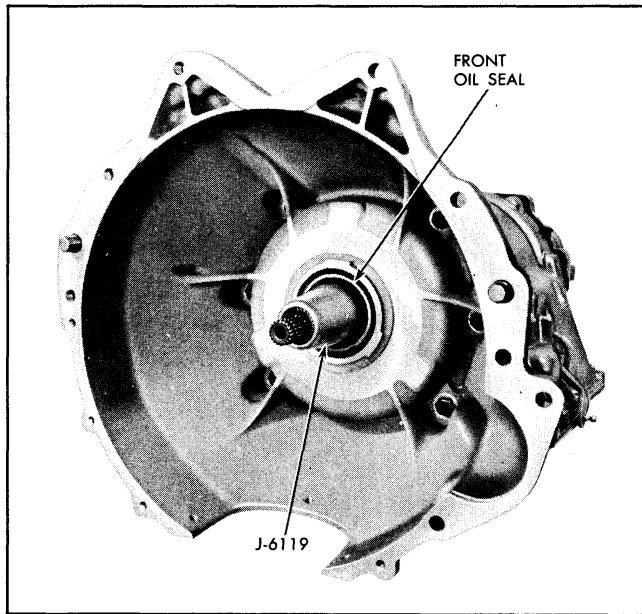

Fig. 7D-49 Front Seal Protector in Place
7. Remove driven torus member rear snap ring from main shaft, using tool J-4880 (Fig. 7D-47).